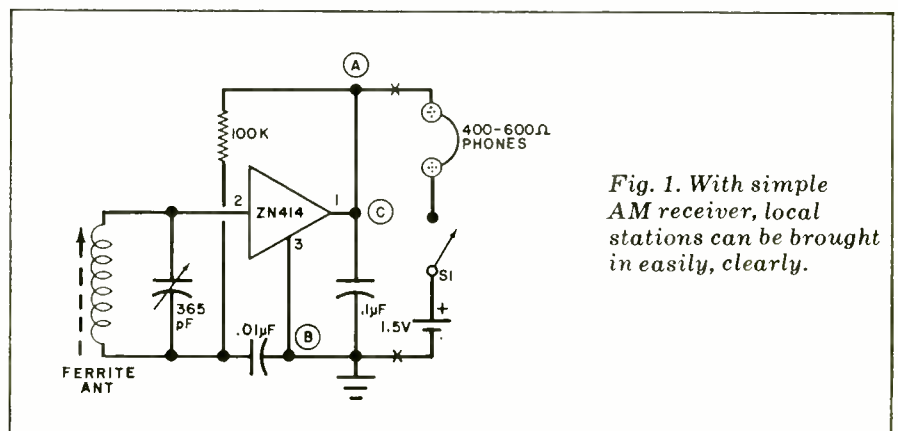
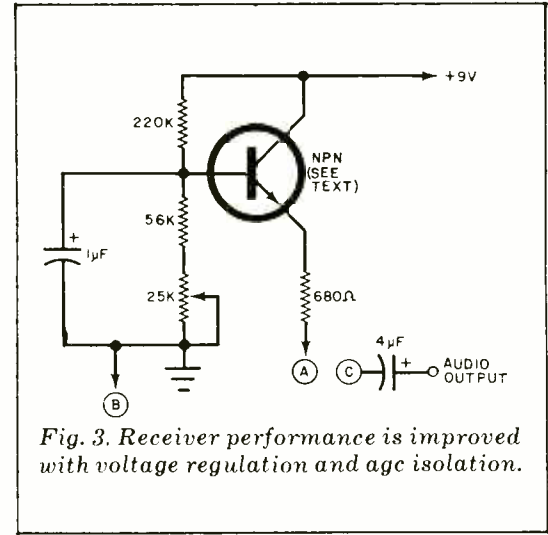

Fig. 1. With simple AM receiver, local stations can be brought in easily, clearly.
Fig. 3. Receiver performance is improved with voltage regulation and agc isolation.
**Simplest AM Receiver.** Perhaps the simplest application for the ZN414 is the AM receiver shown schematically in Fig. 1. With a circuit as simple as this, it is almost impossible for anything to go wrong. In fact, a prototype receiver worked beautifully the first crack out of the barrel. Local stations came in with superb clarity and adequate volume through the headphone.
a few points that must be kept in mind. Any device with a power gain of 110 dB requires careful layout of the components to prevent feedback. Hence, keep the tuning assembly (including *L1* through *L4*) isolated from the other components in the circuit. In the circuits in Figs. 1 and 2, the agc action in the IC is highly dependent on the resistance of the headphones; so, use phones with impedances of 400 to 600 ohms.
can improve the performance of the receivers with two simple modifications. The first is the use of a voltage-regulator circuit that permits the receivers to operate safely from a 9-volt transistor battery. The second isolates the IC's agc circuit from dependency on the impedance of the phones or an amplifier into which the receiver's signal is fed. Both modifications are shown in Fig. 3. The lettered points connect to the same points in Figs. 1 and 2. The "X" marks in the receiver schematics indicate that, with the modifications in place, the phones, power switches, and battery must be disconnected.
Just about any silicon transistor (npn variety) can be used in the voltage-regulator circuit in Fig. 3. Use the potentiometer to adjust the voltage between pins 1 and 3 of the ZN414 to roughly 1.3 volts (the level recommended by Ferranti). If you wish, once the pot has been set to provide the proper voltage, you can remove it from the circuit and replace it with an appropriate-value resistor.